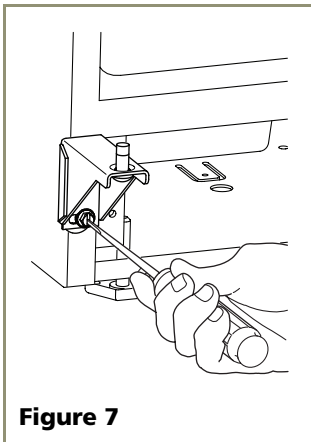

Figure 7
4. Install hinge on opposite side, bottom of cabinet. See **Figure 7**. Replace nut on back side where installed. Align hinge outer edge with cabinet before tightening screws.
- Install hinge bracket on opposite side, bottom of cabinet. See **Figure 7**. Replace nut on back side where installed. Align hinge outer edge with cabinet before tightening screws.